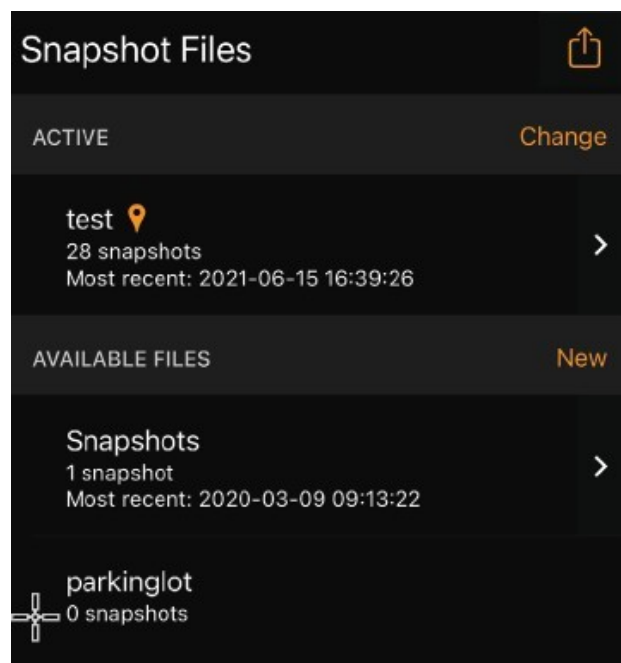

Figure 49
**Note:** If you are out of range of any Snapshot file's geolocation and try to take a Snapshot, you will see the OUT OF RANGE message (Figure 49).